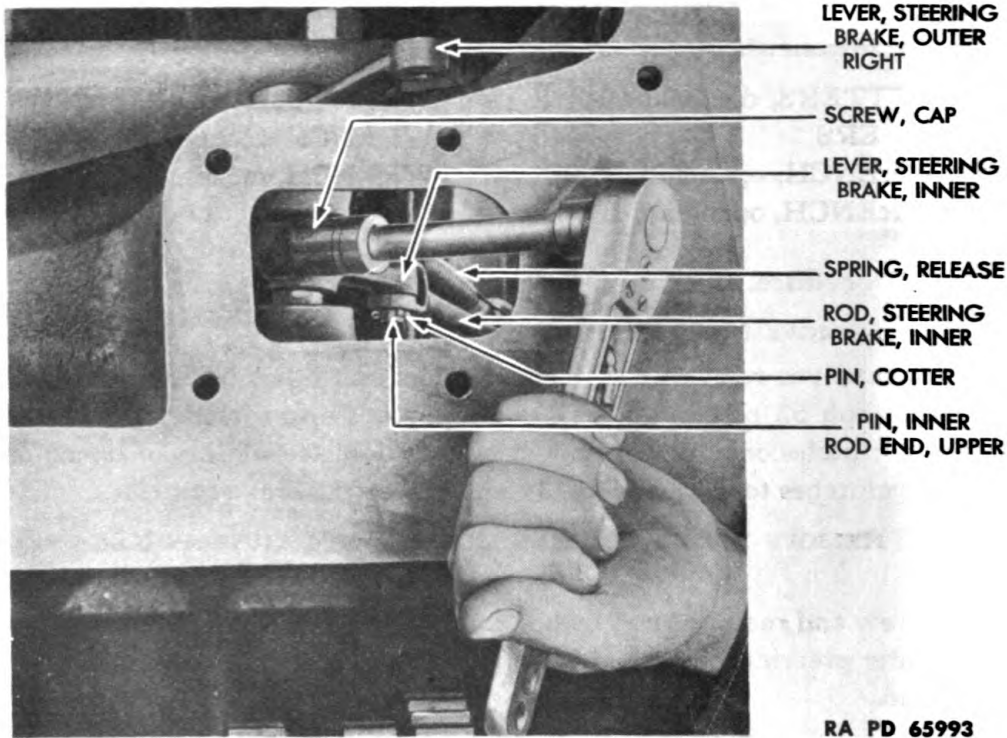

Figure 114 – Disconnecting Inner Steering Brake Lever from Outer Steering Brake Lever
(5) DISCONNECT INNER STEERING BRAKE LEVER FROM RIGHT OUTER STEERING BRAKE LEVER (fig. 114).
(3) SEPARATE INNER STEERING BRAKE LEVER FROM INNER STEERING BRAKE ROD (fig. 114).